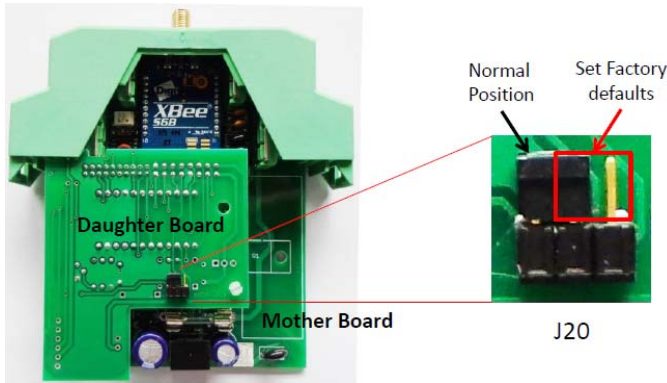

Figure 3.- Configuring Modbus factory default settings
The WFS-1000 Modbus RTU protocol configuration and the WiFi radio configuration are performed independently. The Modbus RTU protocol must be configured first. Typically Modbus protocol configuration is factory set to the default values (see table 1). If for some reason the Modbus protocol configuration is lost, the factory default values can be restored by removing the power and setting jumper J20 to the position shown in figure 3, then remove again the power, and set the Jumper J20 to the normal position.
- Then you have to remove the WFS-1000 from the box, and disconnect the WFS-1000 Daughter Board from the Mother Board (see figure 3).